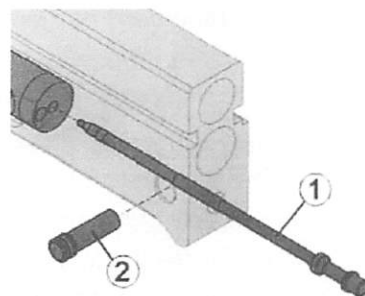

Fig. 46 Replacement of firing pin
- ⇒ Remove firing pin retaining pin (Fig. 46/2), pushing it to the left.
- ⇒ Remove firing pin (Fig. 46/1 ) to the rear.